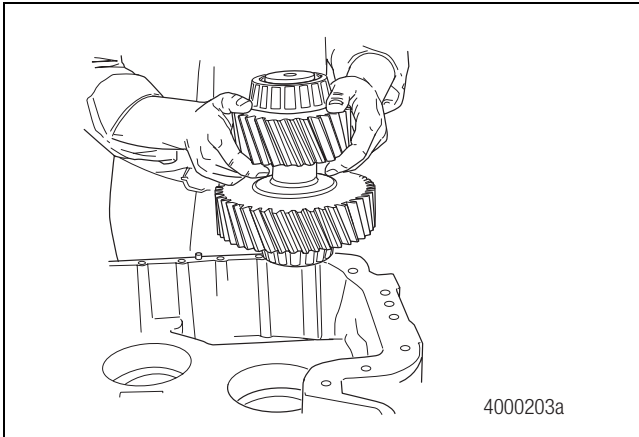

Figure 6.13
3. With the inside of the front case facing UPWARD, install the single idler shaft (MTC-4213X only), or rear output shaft (MTC-4208X/XP/XL and MTC-4210X/XP/XL), and double-gear idler shaft assemblies (all models). Figure 6.13.